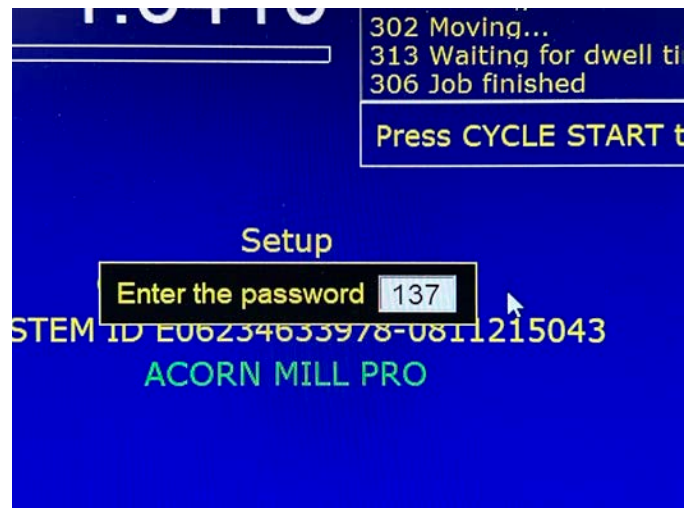

FIGURE 4
3. Enter password (137) (see Figure 4).